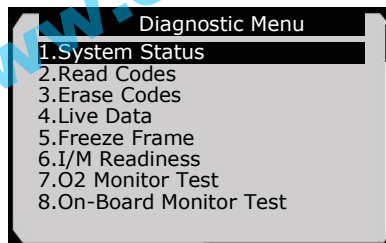

Figure 6.3
- 7) View a summary of system status (MIL status, DTC counts, Monitor status) on screen. (Figure 6.1) Press **ESC** button for **Diagnostic Menu** (Figure 6.3) to come up.
- 1) Use **UP/DOWN** scroll button to select **Read Codes** from **Diagnostic Menu** and press **OK** button. (Figure 6.3)
- 1) To view live data, use the **UP/DOWN** scroll button to select **Live Data** from **Diagnostic Menu** and press the **OK** button. (Figure 6.3)